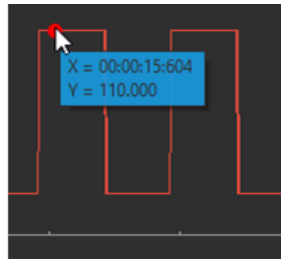

Figure 9.57: Acquisition View - Instant values
- The **Instant values** box can be activated by double-clicking the **Input graph** box and selecting **Show instant values** (Fig. 9.57). This box shows the current value detected by the console for each trace on the selected channel. This box cannot be activated on **Preview graphs**. To remove instantaneous value, double click on the dot.